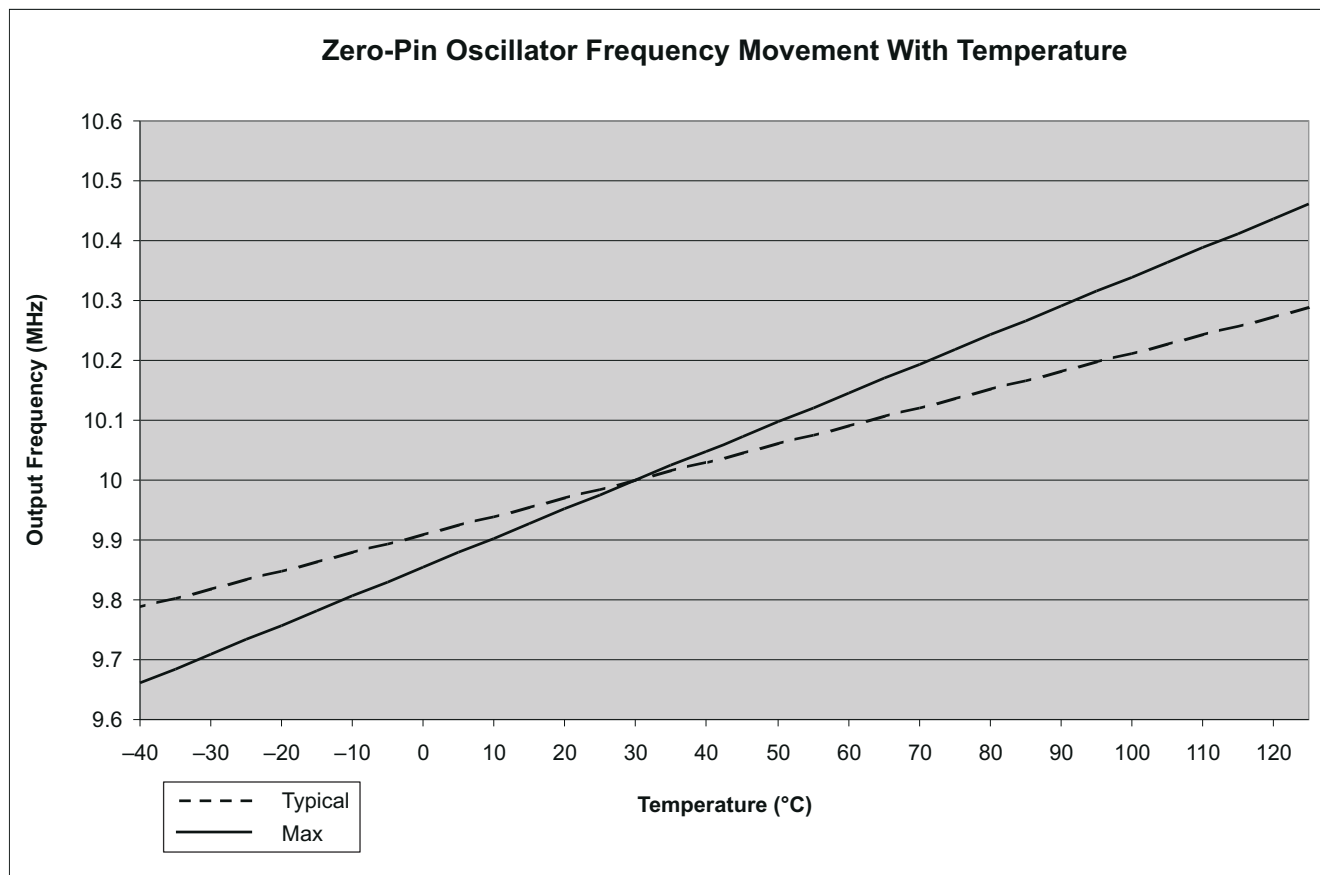

Figure 7-9. Zero-Pin Oscillator Frequency Movement With Temperature
- (1) Oscillator frequency will vary over temperature, see Figure 7-9. To compensate for oscillator temperature drift, see the Oscillator Compensation Guide and C2000Ware.
- (2) Frequency range ensured only when VREG is enabled, $\overline{\text{VREG}} = V_{\text{SS}}$.
- (3) Output frequency of the internal oscillators follows the direction of both the temperature gradient and voltage (V_{DD}) gradient. For example: